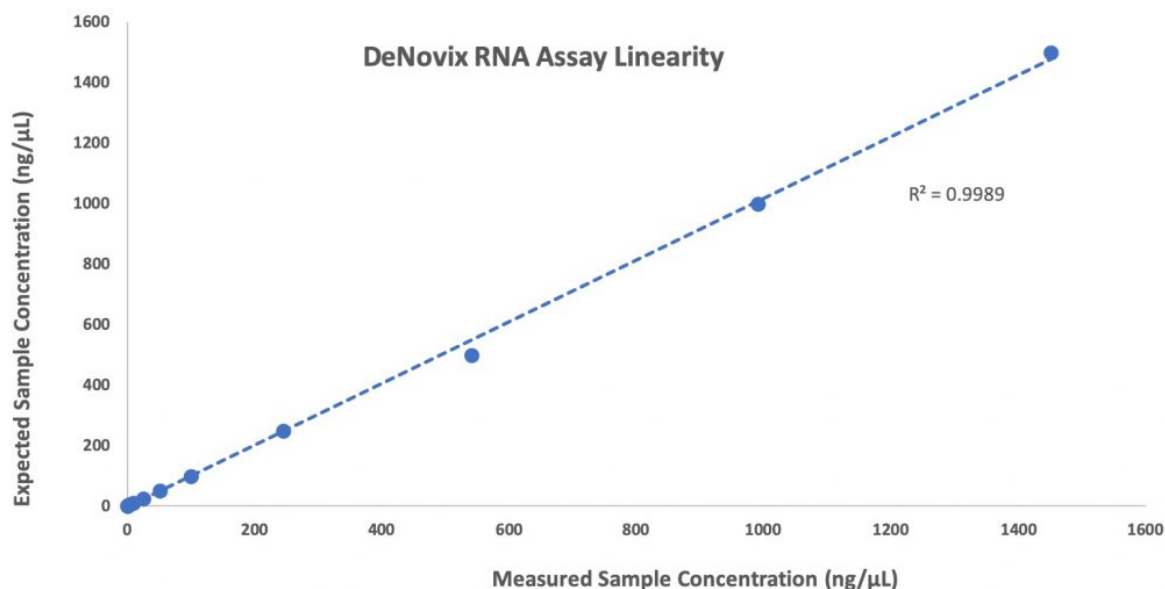

Figure 1. E. coli total RNA measured using the DeNovix RNA Assay on a DS-11FX fluorometer.
3. Plot the fluorescence RFU values for the RNA standards on the y-axis and ng/well RNA on the x-axis, and fit a trend line (Figure 1) through these points to generate a standard curve with a y-intercept = 0.